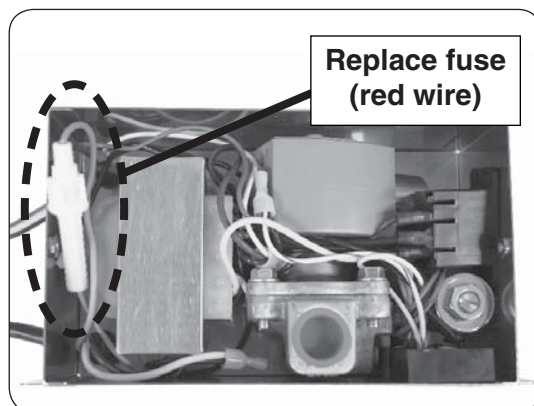

Fig. 46-2 Replace fuse
4. "Push in and twist" the fuse holder (red wire), exposing the fuse (see Fig. 46-2).